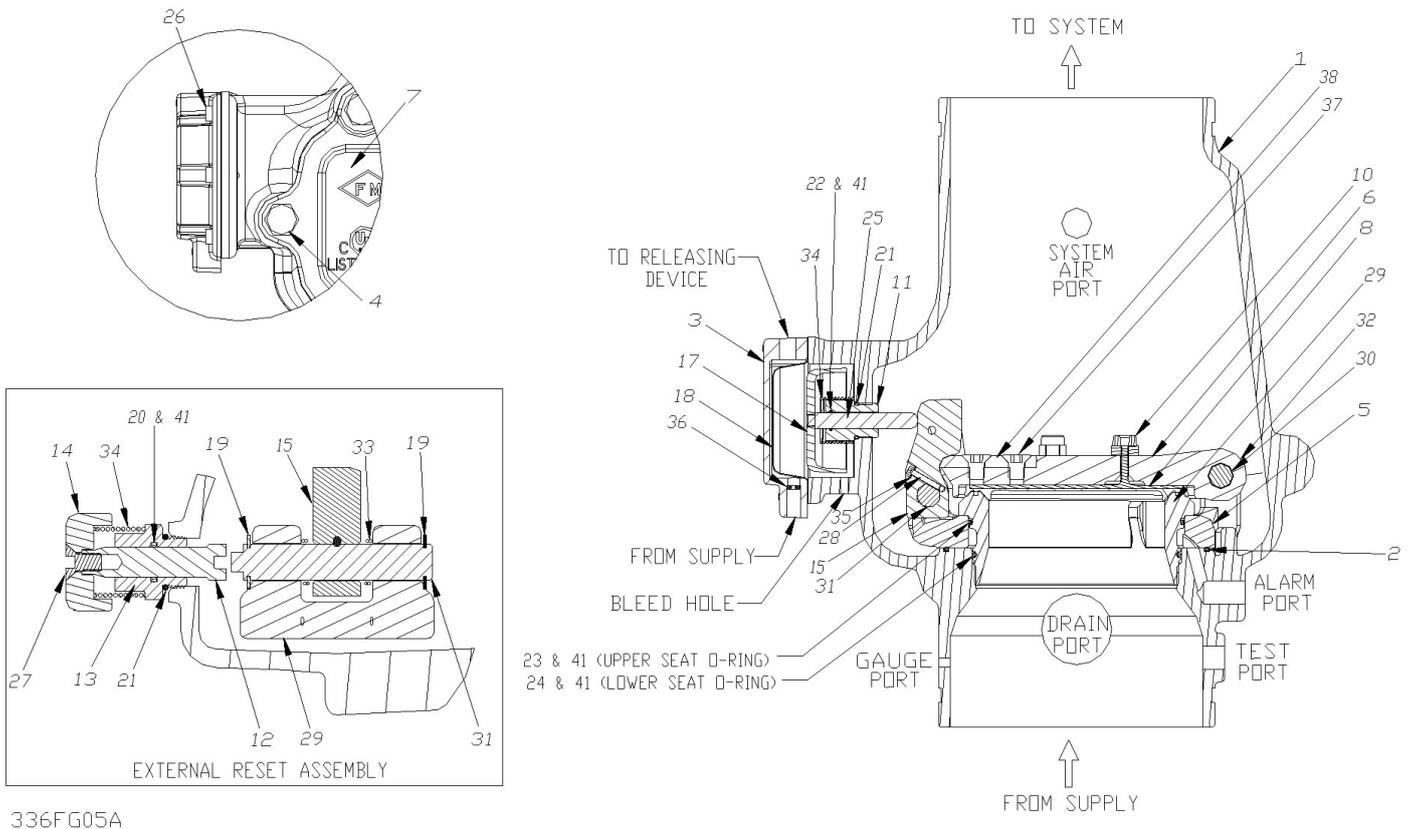

Fig. 5
- With the Model B Manual Emergency Station, Valve D (Fig.6), open, push in and rotate the Model DDXLP's reset knob (#14, Fig. 5) clockwise until you hear a distinct clicking noise, indicating that the clapper has closed. Note: The reset knob can be rotated only while the pushrod chamber is vented to atmospheric conditions (0 psig).
4. Ball drip valve G (Fig. 6) —make sure valve F (Fig. 6) is open. Push in on the plunger to be sure the ball check is off its seat. If no water appears, the Dry Pipe Valve's water seat is tight. Inspect the bleed hole (see Fig. 5) on the underside of the push rod chamber for leakage.
- a. Water leakage due to a water column above the Dry Pipe Valve's clapper: This condition can be caused by leakage past the system side of the Model DDX-LP Dry Pipe Valve's seal assembly (#8, Fig. 5). Be sure that this surface is free of any type of debris. To eliminate leakage due to a water column, refer to the section in this bulletin marked "Draining Excess/ Condensate Water From System". If the problem continues proceed to the following section.